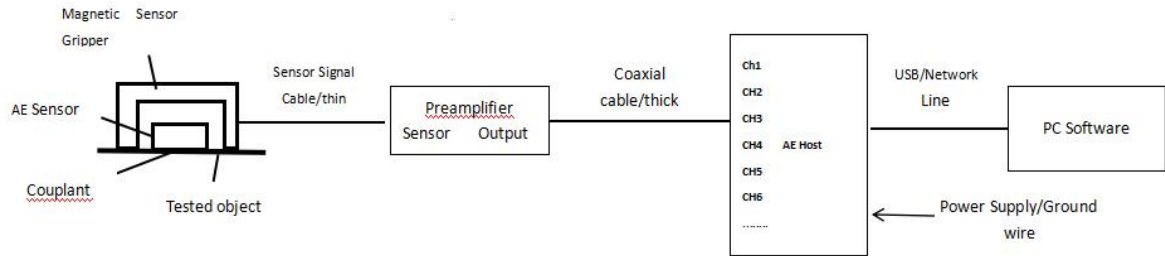
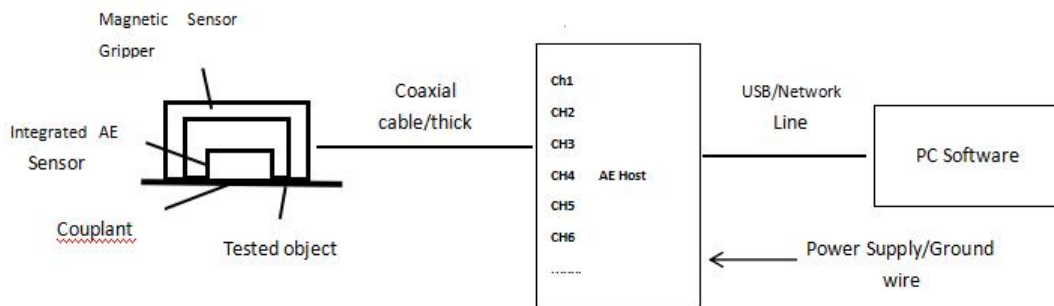

Fig. 1-1 Connection Diagram of generic sensor and external preamplifier
Fig. 1-2 Connection Diagram Of Integrated Sensor
The system hardware connection diagrams are shown in Fig. 1-1 and Fig. 1-2.
Figure 1-1 and Figure 1-2 are the schematic diagrams of hardware connection of the acoustic emission detection system. The difference is that the selected sensors are different. The former is that the sensor and preamplifier are independent products, while the latter is of integrated structure.
**A. When the sensor and preamplifier are two separated independent products, please refer to the connection method in Fig. 1-1:**
**B. When the AE sensor is an integrated sensor with a built-in preamplifier, refer to the connection method in Fig. 1-2;**